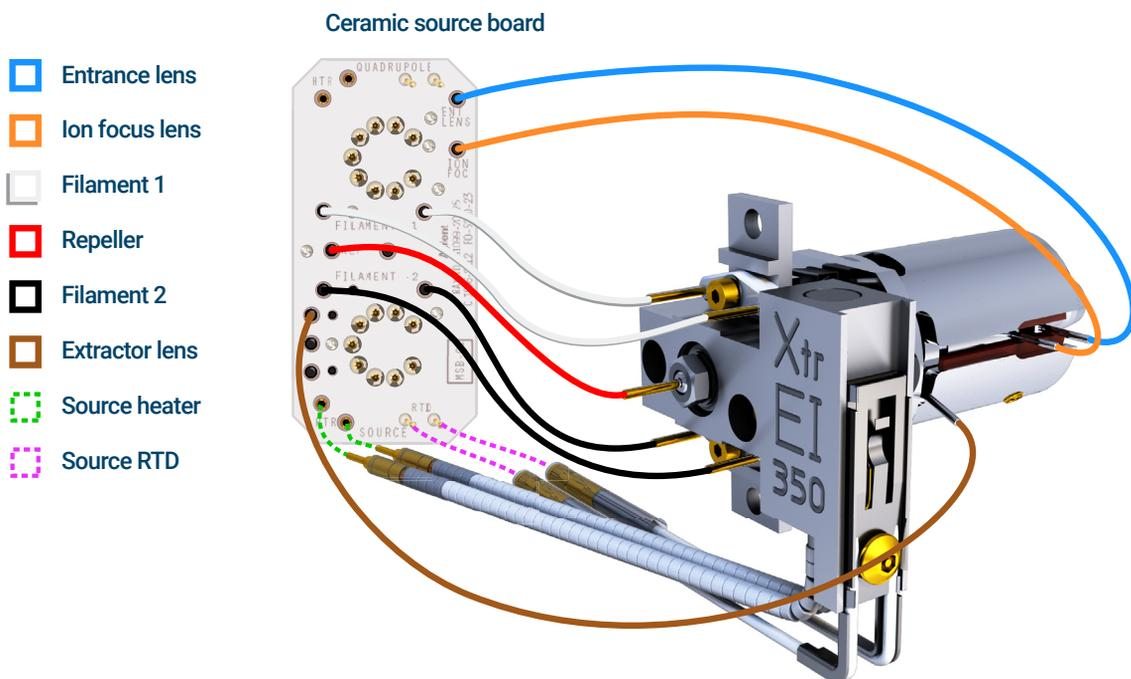

Figure 43. Wiring for the EI XTR Source
- 1 Use tweezers or needle nose pliers to connect/disconnect the ceramic source board wire leads at the source connectors. (See **Figure 43.**)